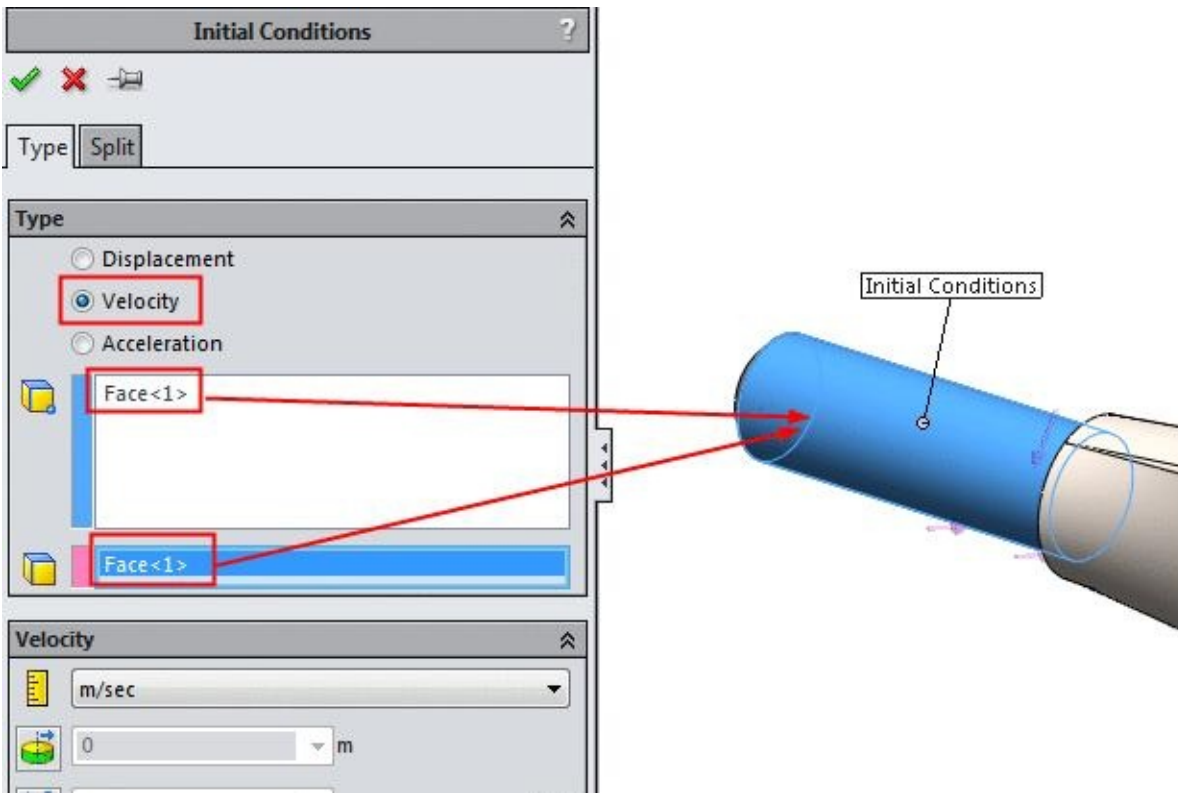

Figure-21. Face selected for defining velocity
- Click in the pink selection box of **PropertyManager** to define the direction and then select the round face of the model again; refer to Figure-21.